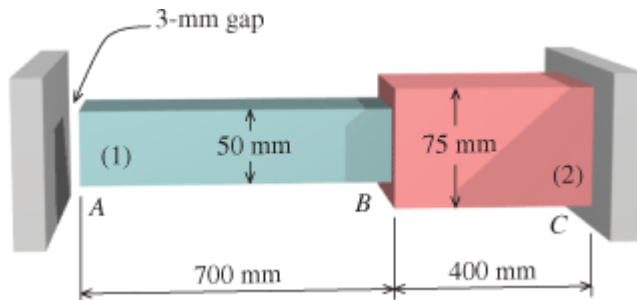

Figure 2: The Two-bar Arrangement.
(Total points: 25) At a temperature of 5°C , a 3-mm gap exists between two polymer bars and a rigid wall as shown in Figure 2. Bar (1) is 50 mm wide and 20 mm thick [$E_1 = 800 \text{ MPa}$; $\alpha_1 = 140 \times 10^{-6}/^{\circ}\text{C}$]. Bar (2) is 75 mm wide and 25 mm thick [$E_2 = 2.7 \text{ GPa}$; $\alpha_2 = 67 \times 10^{-6}/^{\circ}\text{C}$]. The supporting wall at C is also rigid.